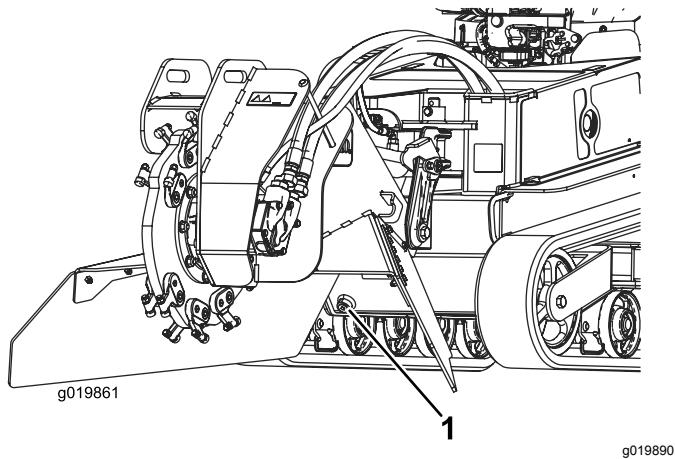

Figure 62
- Remove the hydraulic tank drain plug and allow the fluid to drain into the pan (Figure 62).